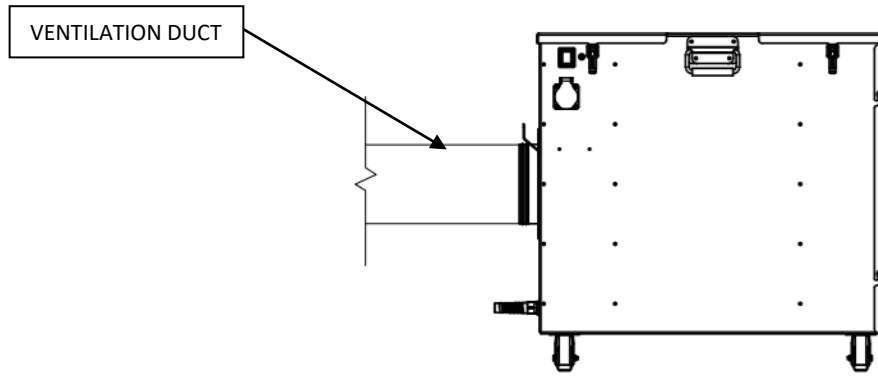

Fig.2. The device schema with connected air duct
- The device should be placed on stands close to pollution source. The device should not be placed on its side or in any other unproper position. After using an appropriate ventilation duct, the device can be used as a local extractor with air exhaust [Fig. 2].